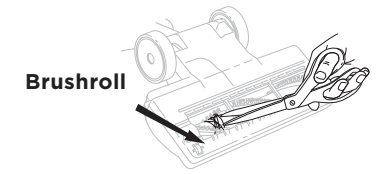

Fig. 25
- 2 Inspect the airway and the brushroll. Remove any debris buildup. With scissors, carefully cut away any fibers or hair wrapped around the brushroll. Avoid damaging or cutting the bristles. **(Fig. 25)**